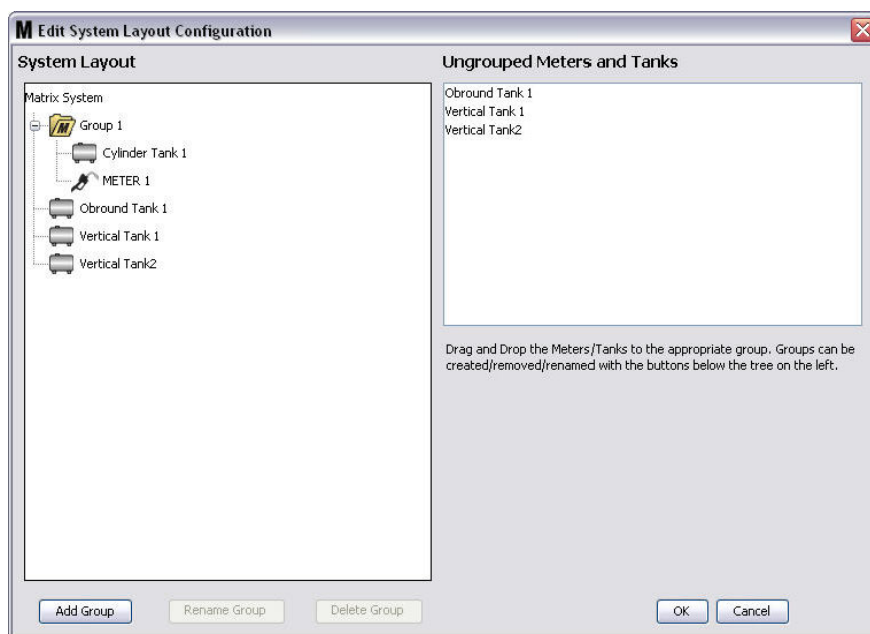

FIG. 95
7. The selected tanks and meters now appear under the folder icon on the Matrix System side of the screen as shown in FIG. 95.
9. To Rename a group, use your mouse to select the group folder on the list on the Matrix System side of the screen. Click the Rename Group button (FIG. 95).
10. To Delete a group, use your mouse to select the group folder on the Matrix System side of the screen. Click the Delete Group button (FIG. 95).